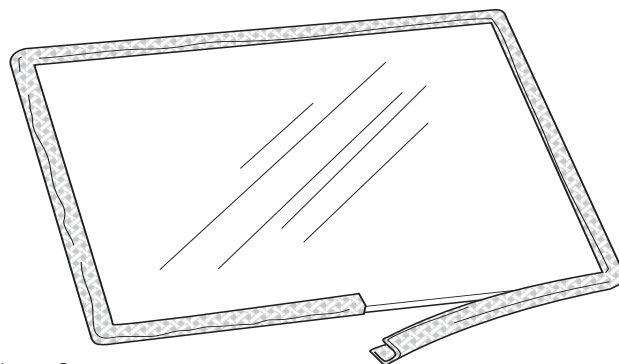

Figure 8.1.
- Beginning at the midpoint of the lower edge, apply the new gasket around the glass panel, with the adhesive side inside and the thicker portion on the outside. **DO NOT STRETCH THE GASKET MATERIAL.** Trim off any excess, leaving a 1/2" overlap as shown in fig. 8.1.